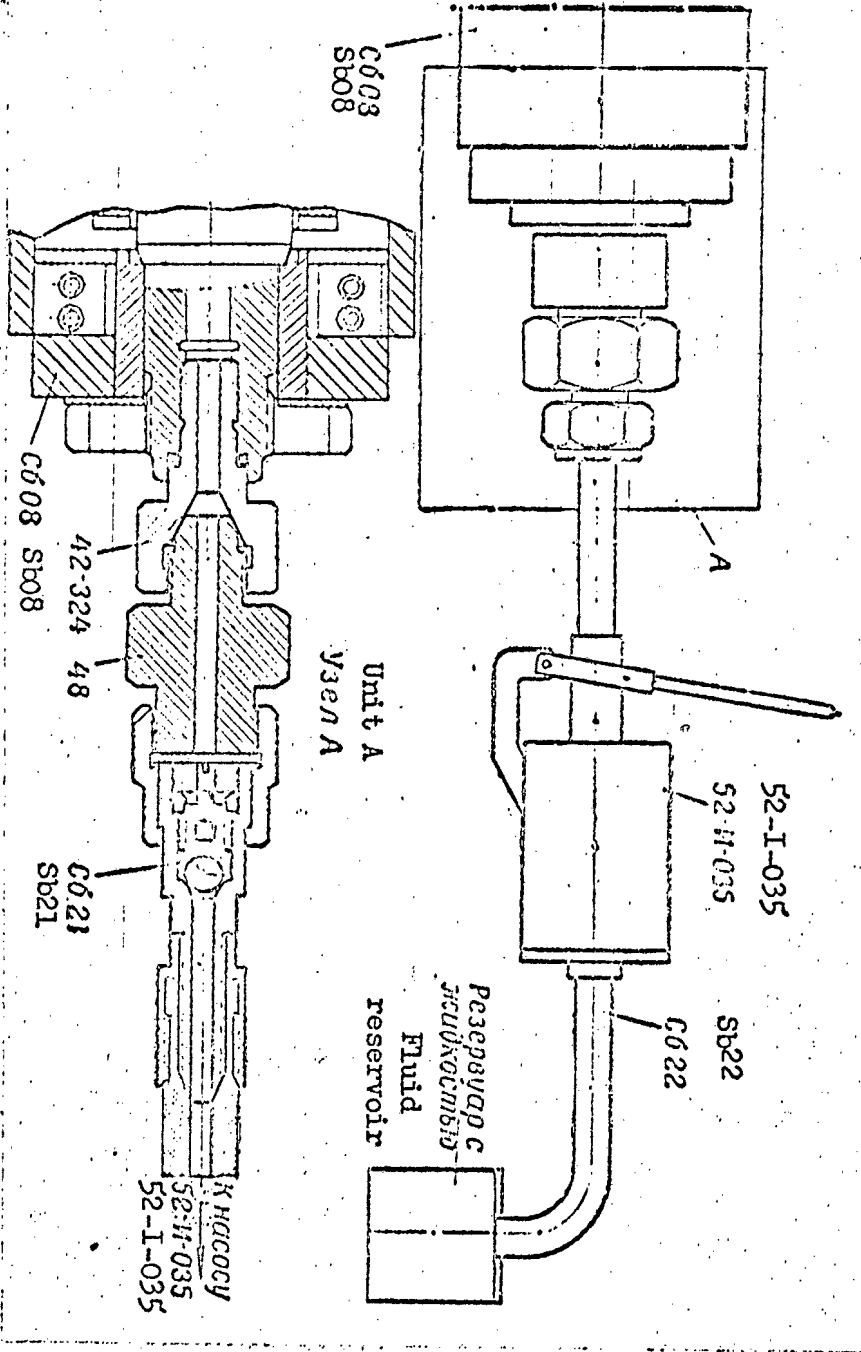

Fig. 34. Filling the Recoil Cylinder with Fluid.
- install packing ring 47 (if it has been removed) in the fr50X1-HUM opening of the counterrecoil rod and screw on adapter 42-324 with wrench A52830-6 (Fig. 34);